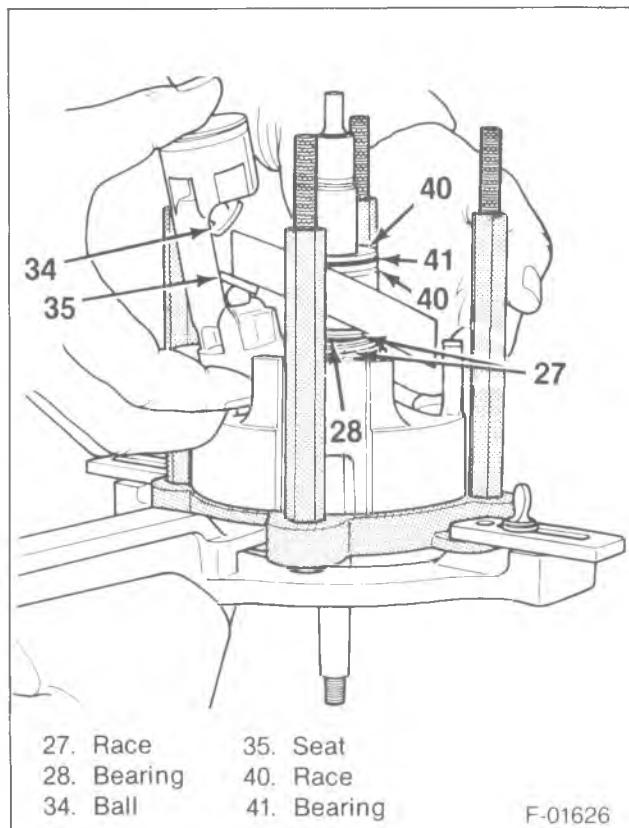

Figure 40—Installing No. 1 Piston
- Support the front half of the cylinder (29) on J 9397.
- 1. Shaft and axial plate (38).
- 2. Balls (32) and shoe discs (33) to the pistons (30).
- 3. Piston assembly (30) into the front cylinder half (29) (figure 40).
- Rotate the axial plate (39) to place the high point above cylinder bore No. 1.